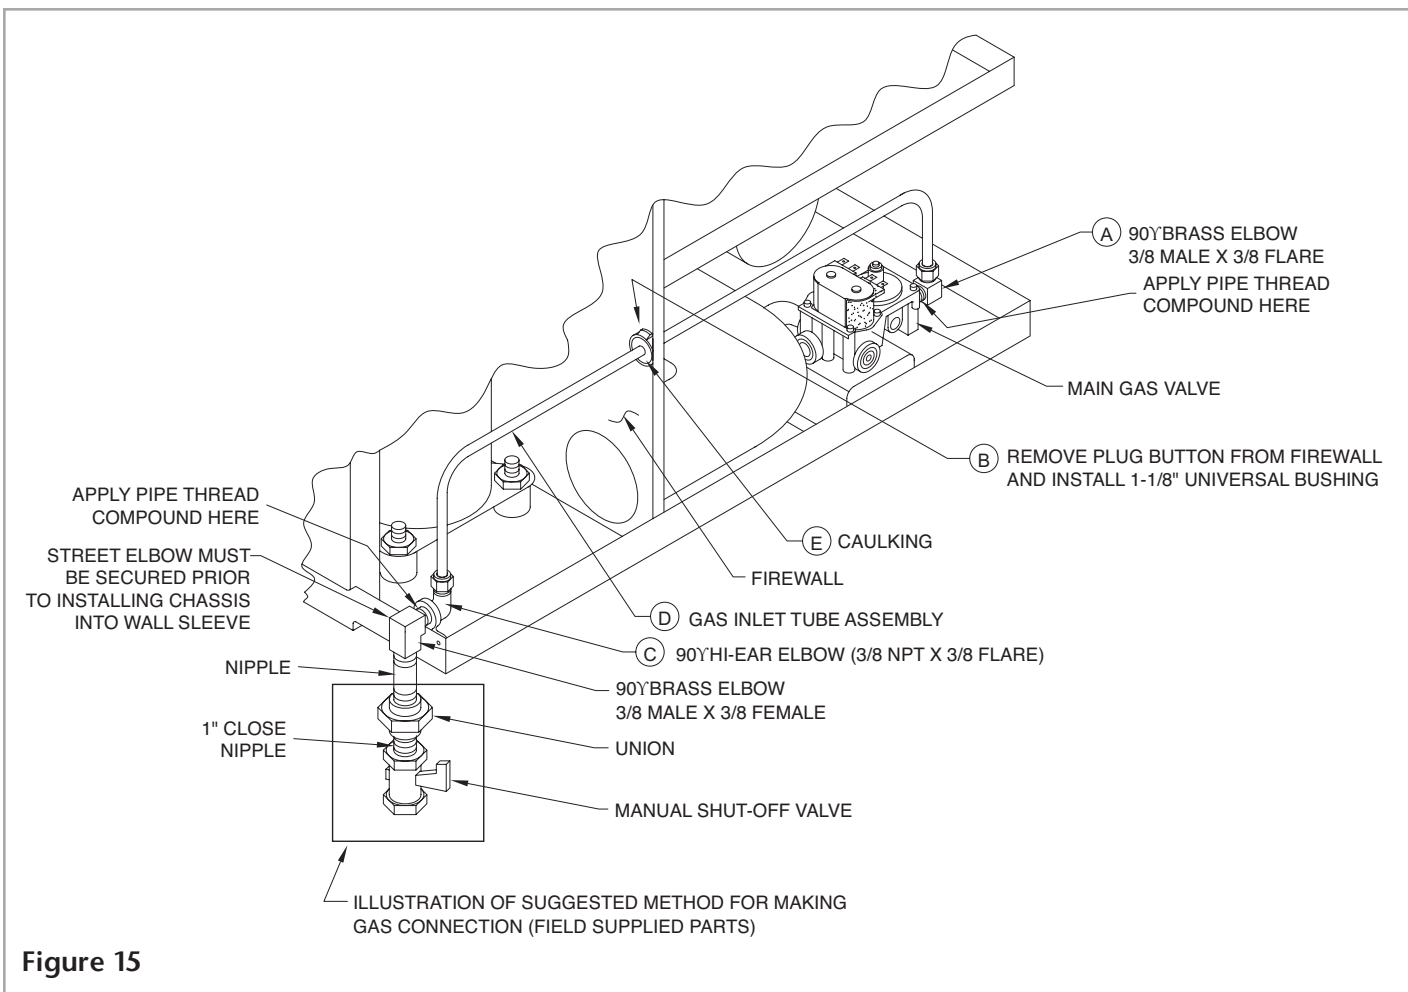

Figure 15
2. Remove brass street elbow from valve and replace it with the 3/8" NPT x 3/8" flare elbow provided. Be sure to apply a thread compound resistant to the action of liquefied petroleum (LP) gas and Natural gas to the threads. NOTE: Flared portion of elbow must be pointing up. Do not discard the elbow that was removed. It will be used later. (See A, **Figure 15**.)
3. Remove the 1-1/8" plug from the firewall and replace it with the 1-1/8" universal bushing provided. (See B, **Figure 15**.)
4. Using the two (2) 8-32 x 1/2 self tapping screws provided, secure hi-ear elbow as illustrated. (See C, **Figure 15**.)
5. Insert gas inlet tube assembly. (See D, **Figure 15**) through bushing in firewall. NOTE: The shortest end of the tube connects to main gas valve.
6. Secure tube assembly to elbows as illustrated. (See **Figure 15**.) Do not apply thread compound to flare fittings.
7. Using silicone caulking, seal gas inlet tube assembly where it passes through bushing. (See E, **Figure 15**.)